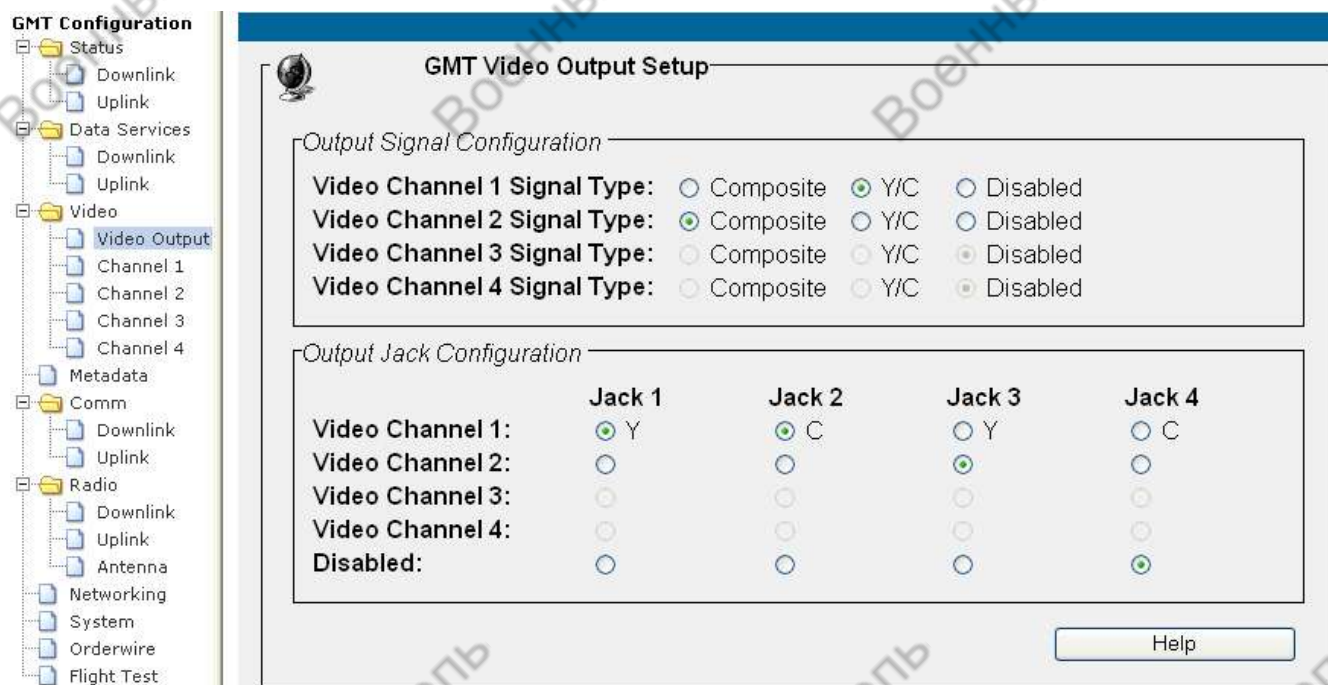

Figure 34: GMT Video Output Setup Page
The GMT Video Output Setup Page (see Figure 34) allows the user to configure the video output to be displayed on each video jack on the GMT. All features of this page may only be modified by users with Full access privileges.
If the Y/C output video signal type is selected for either of the video channels, the output jack selection for that video channel must be performed as a pair. Jacks 1 and 2 form one Y/C pair, and Jacks 3 and 4 form another. Jacks 1 and 3 will display luminance (Y), while jacks 2 and 4 will display chrominance (C). For instance, if Video Channel 1 is configured for Y/C mode as seen in Figure 34, then whenever you select channel 1 as the video source for any jack, the selection for the other jack in the Y/C pair will be automatically switched to the same source.
In the configuration displayed in Figure 34, Jacks 1 and 2 are configured to display the Y and C components of the video channel 1 signal, Jack 3 is configured to display the composite video channel 2 signal, and Jack 4 is disabled.